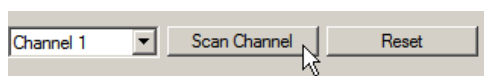

Figure 35: LINX Configurator software, scan DALI Channel.
2. Select the DALI channel and click on the **Scan Channel** button shown in Figure 35.